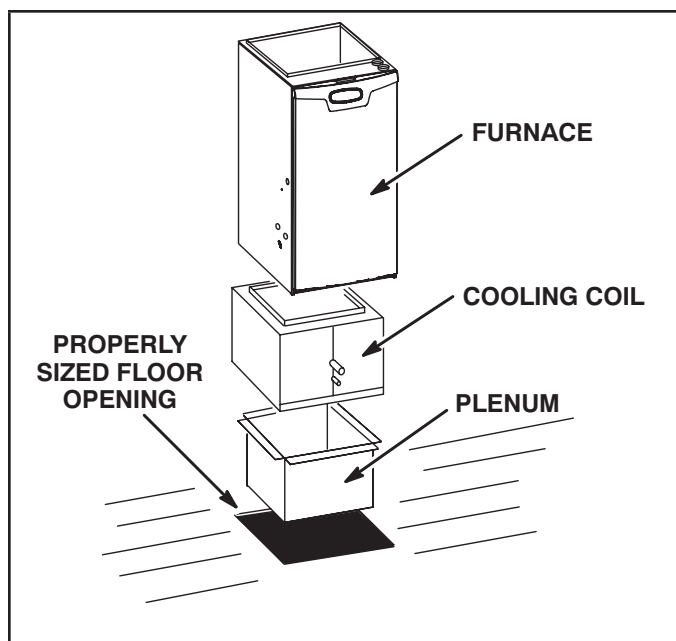

FIGURE 16
**Installation on Cooling Coil Cabinet FIGURE 16**